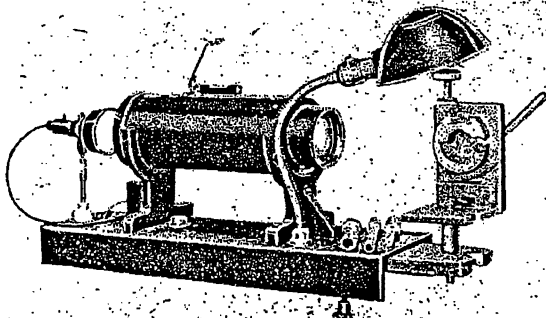

Figure 12—Collimation Fixture—Lens Adjustment
(4) ALIGNMENT OF THE OBJECTIVE LENS ASSEMBLY. (See figures 12 and 13.)—Before performing the following adjustments, it is assumed that the alignment of the field horizon with the natural horizon has been accomplished according to the preceding instructions.